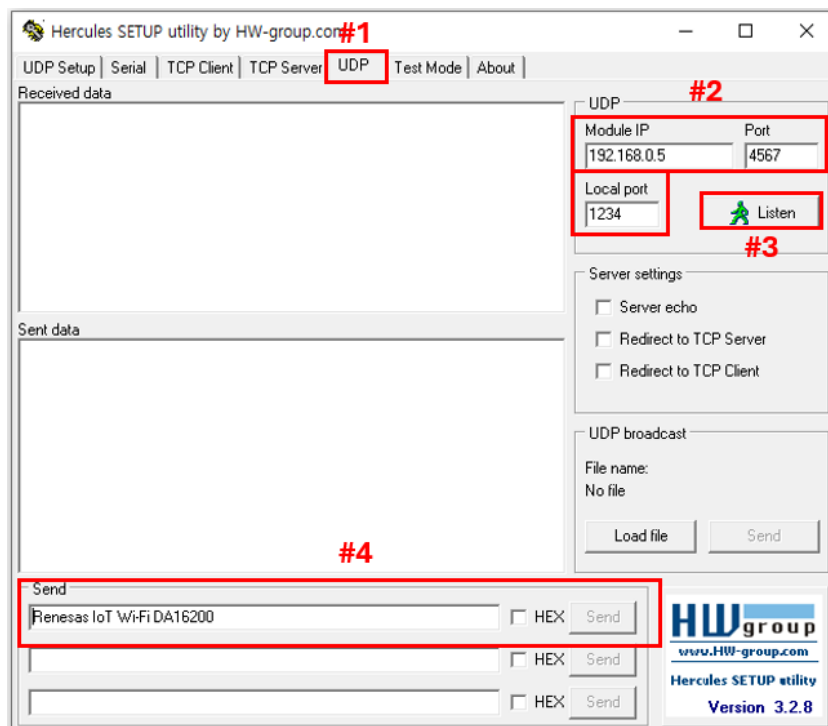

Figure 29: Hercules – UDP Socket Setting
- a. Select **UDP** (#1, Figure 29).
- b. Enter the IP address and port of the counterpart's UDP socket (#2, Figure 29).
Enter the port number to be used and click **Listen** to open the socket (#3, Figure 29).
- c. Enter data and click **Send** to transmit (#4, Figure 29).